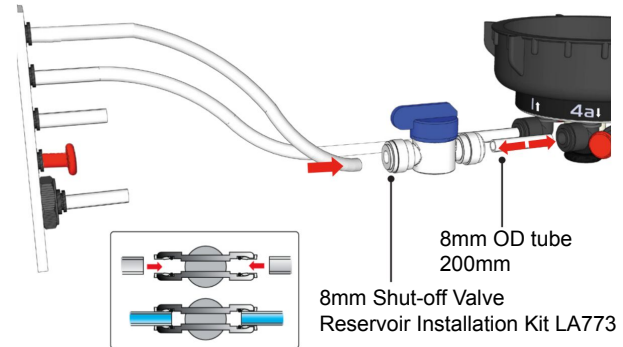

Fig 2
4. CONNECT the shut-off valve to the Reservoir Inlet connector using the tube supplied (port 4a↓) (Fig 2)